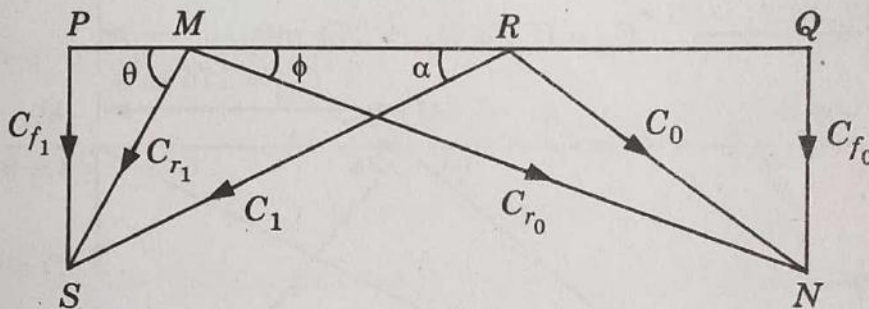

Fig. 4.20.1.
3. Using these parameters the velocity diagram is drawn as shown in Fig. 4.20.1.